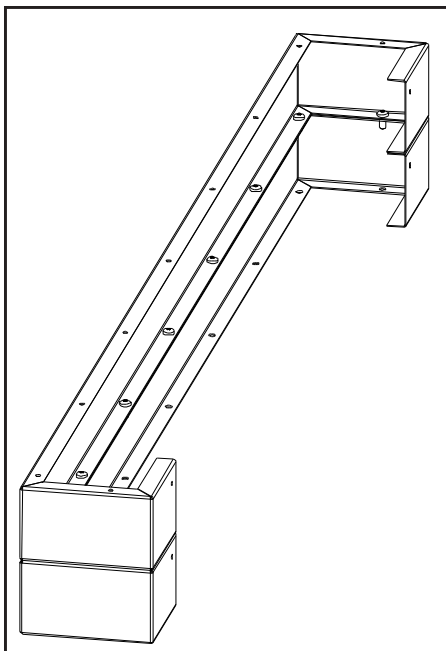

Figure 43: Combining 2 Base Shelf Riser.
2. When using more than one riser each level must be attached using nine (9) #8 T-20 screws provided (see Figure 43).